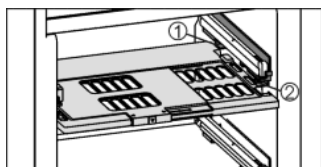

Fig. 19
- ▶ To insert the humidity control plate: Insert the cover mouldings of the plate into the rear holder *Fig. 19 (1)* from underneath and engage them in the holder *Fig. 19 (2)* at the front.